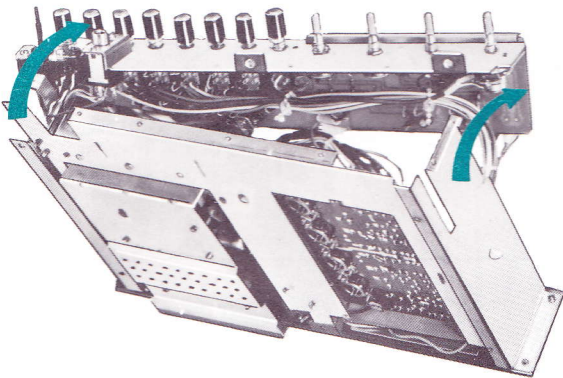

Fig. 2-4. Front subchassis removal (3)
4. This frees front subchassis along with preamplifier board as shown in Fig. 2-4.